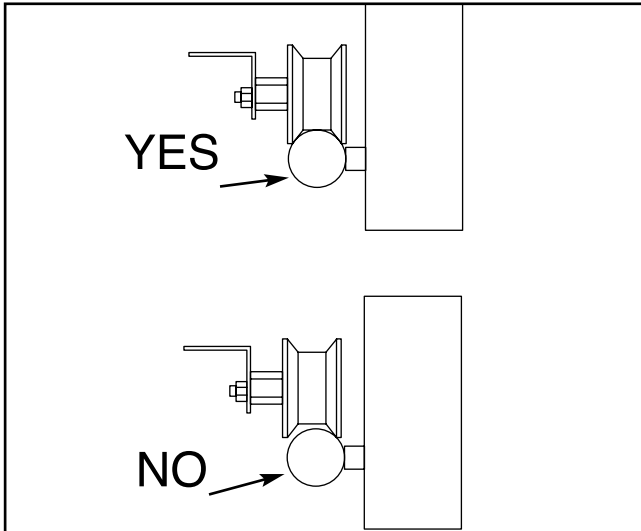

Figure 12.
9. Slide the table mechanism onto the rails. Adjust the lower bearing guide until it is centered on the lower guide rail as in **Figure 8**. Please note: the upper grooved rollers can be easily derailed at this point (see **Figure 12**).
13. Prior to adjusting the upper eccentric grooved rollers, it must be understood that the grooved rollers need to remain in full contact with the upper rail during the adjustment process in order to achieve proper adjustment. **Figure 12**.